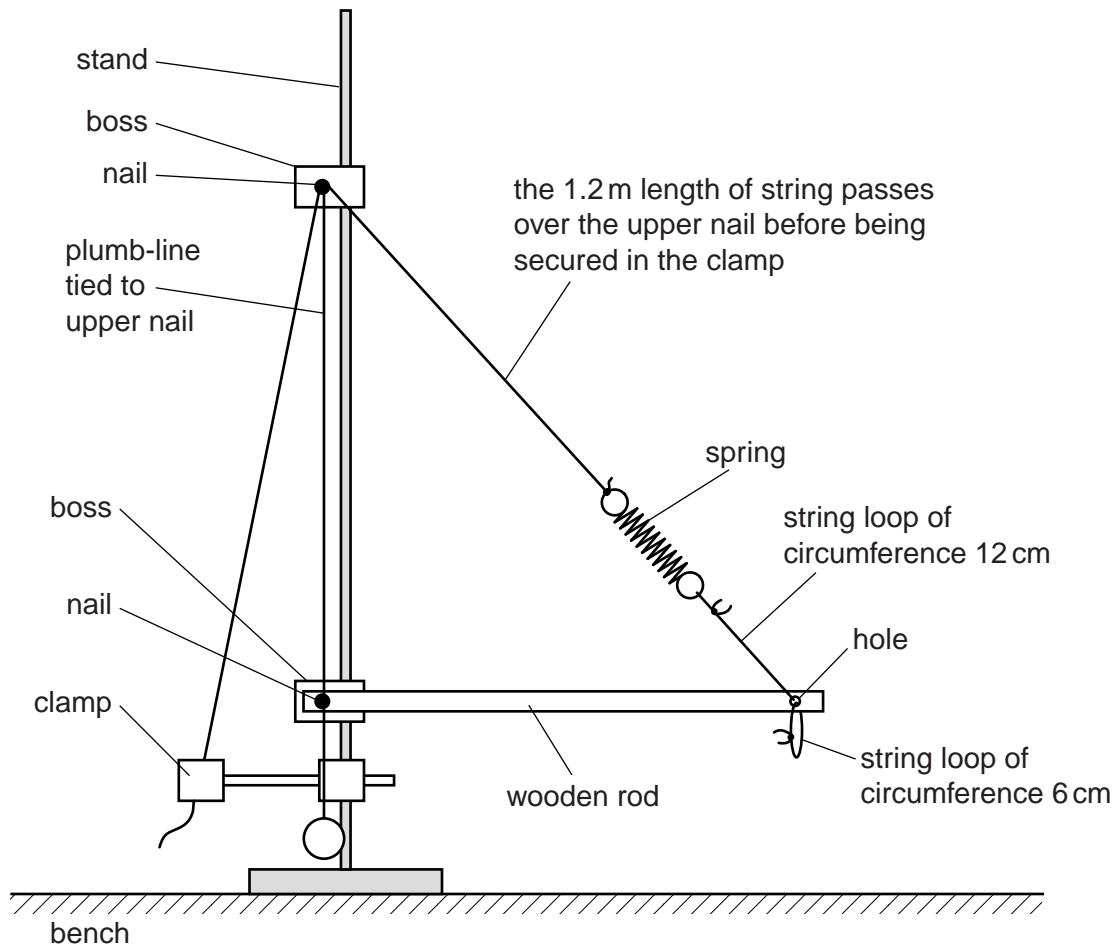

Fig. 1.2
- 3 The apparatus should be assembled as shown in Fig. 1.2.